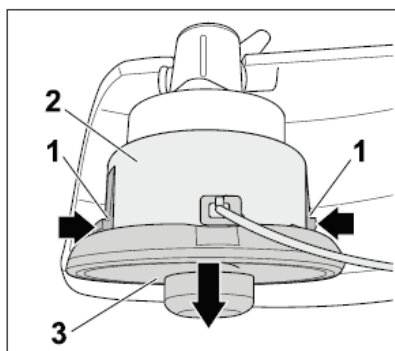

Fig. 12
- Pressionar ambas as travas (1), (Fig. 12), do carretel (2) e retire a bobina de fio e a tampa (3).